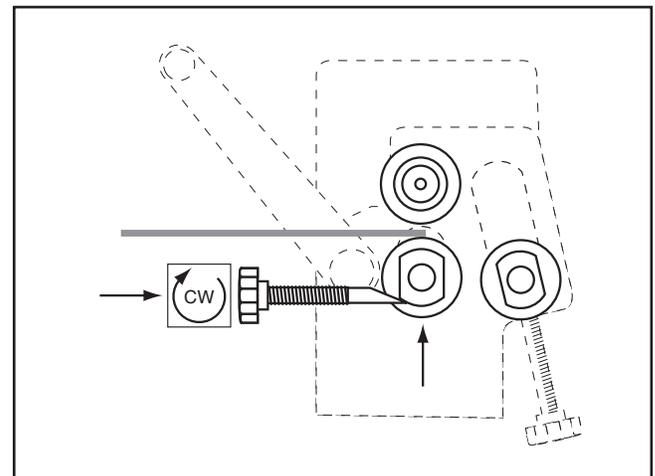

Figure 14. Raising lower roller for flat rolling.
1. Place the workpiece between the upper and lower rollers, as shown in **Figure 14**. Turn the thickness adjust knobs to lift the lower roller until the workpiece is held snug between the upper and lower rollers. Be sure to turn the thickness adjust knobs equal amounts.